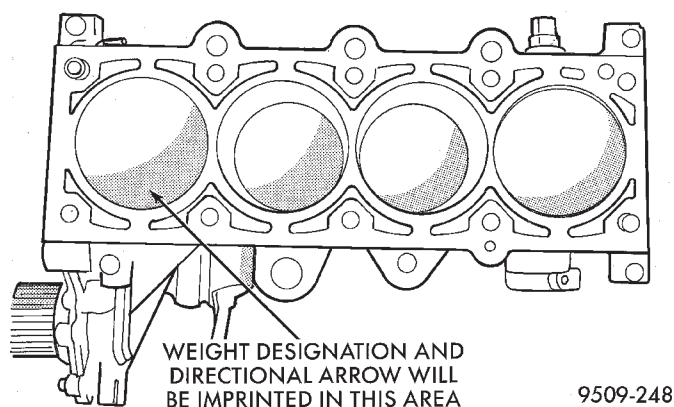

Fig. 91 Piston Markings
(1) Remove top ridge of cylinder bores with a reliable ridge reamer before removing pistons from cylinder block. **Be sure to keep tops of pistons covered during this operation**. Mark piston with matching cylinder number (Fig. 91).
(3) Pistons will have a stamping in the approximate location shown in (Fig. 91). These stamps will be either a directional arrow or a weight identification for the assembly. L is for light and H is for heavy. These assemblies should all be the same weight class. Service piston assemblies are marked with a S and can be used with either L or H production assemblies. The weight designation stamps should face toward the timing belt side of the engine.
(4) Pistons and connecting rods must be removed from top of cylinder block. Rotate crankshaft so that each connecting rod is centered in cylinder bore.
(5) Remove connecting rod cap bolts **Do not use old bolts if reinstalling connecting rod.** Push each piston and rod assembly out of cylinder bore.
(4) The weight stamp designation L or H will be in the front half of the piston should face toward the front of the engine for SOHC engine. The arrow should face toward the front of the engine for DOHC engine (Fig. 91).
(5) Rotate crankshaft so that the connecting rod journal is on the center of the cylinder bore. Insert rod and piston assembly into cylinder bore and guide rod over the crankshaft journal.
(6) Tap the piston down in cylinder bore, using a hammer handle. At the same time, guide connecting rod into position on connecting rod journal.
(7) Install rod caps. Install **New** bolts and tighten to 27 N·m (20 ft.lb.) Plus 1/4 turn.